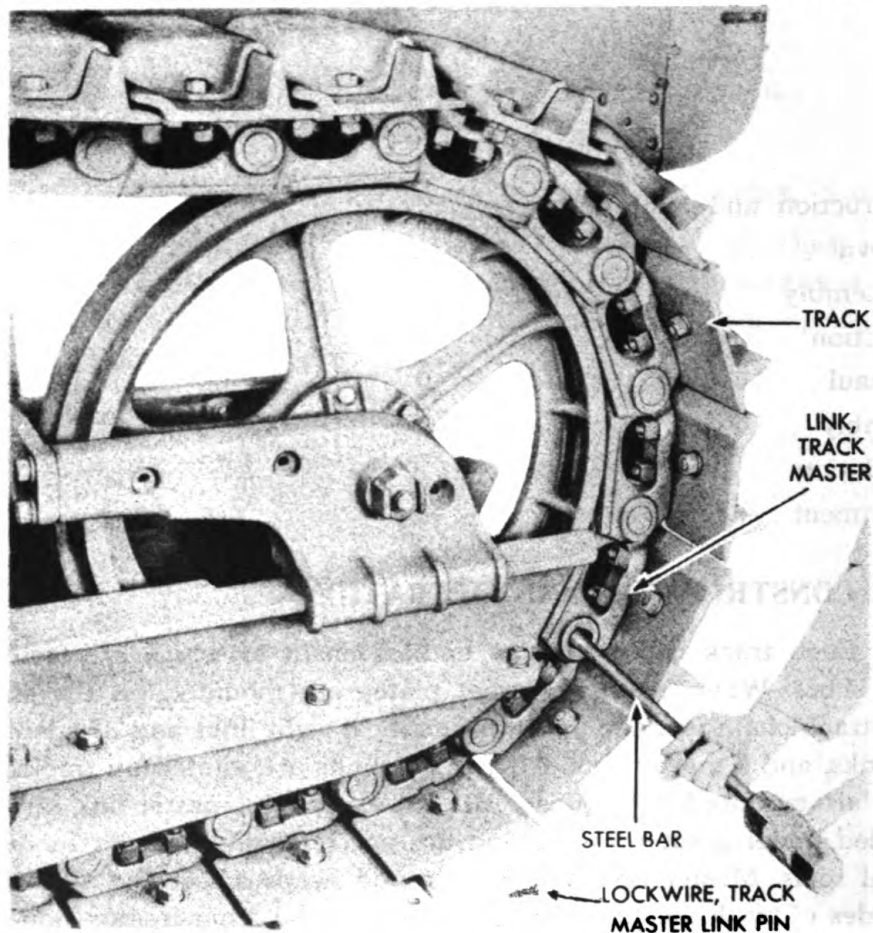

Figure 155 — Master Link Pin Removal
(1) **REMOVE TRACK MASTER LINK PIN (fig. 155).**
(a) Position tractor so master link pin of track to be removed is at front of idler (fig. 155).